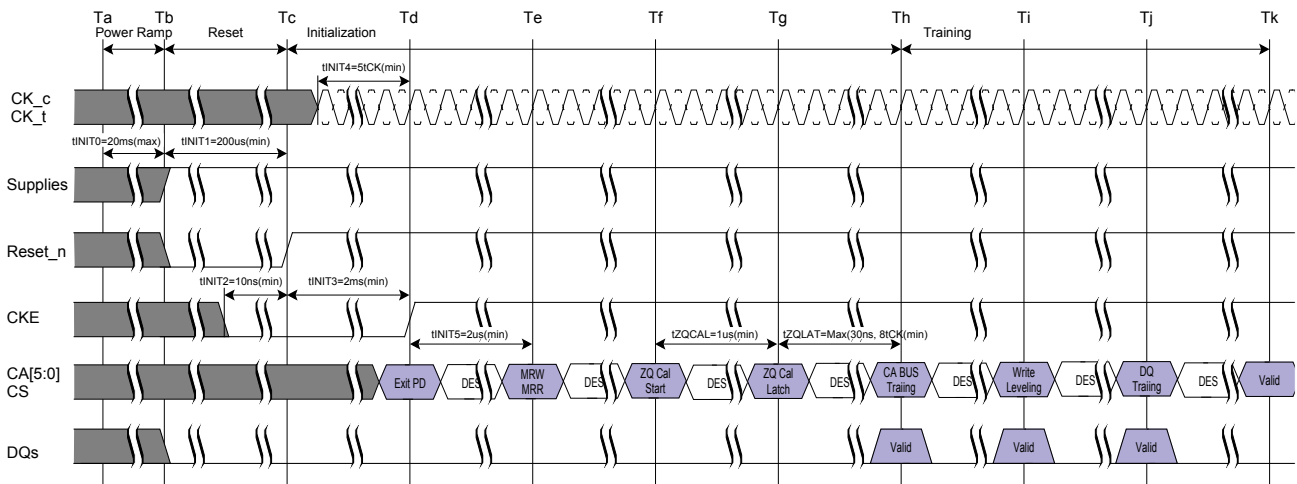

Figure 1: Power Ramp and Initialization Sequence
1) Training is optional and may be done at the system architects discretion. The training sequence after ZQ_CAL Latch (Th, Sequence7~9) in Figure 1 is simplified recommendation and actual training sequence may vary depending on systems.